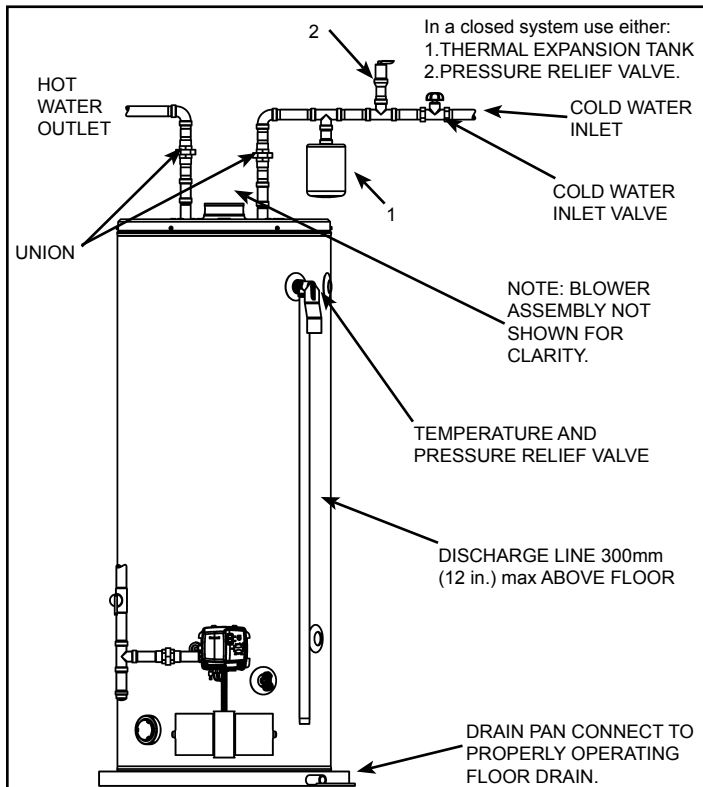

Figure 27
Piping, fittings, and valves should be installed according to the installation drawing (Figure 27). Water supply pressure should not exceed 550 kPa (80psi). If this occurs a pressure reducing valve and/or an expansion tank may be required. The pressure reducing valve should be placed on the supply to the entire house in order to maintain equal hot and cold water pressures.
1. Install the water piping and fittings as shown in Figure 27. Connect the cold water supply to the fitting (3/4" NPT) marked "COLD" (or "C"). Connect the hot water supply to the fitting (3/4" NPT) marked "HOT" (or "H").